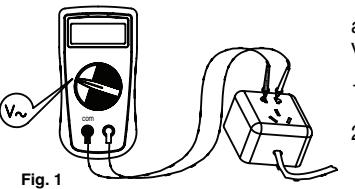

Fig. 1
3.1 AC VOLTS (FIG. 1)
3.1 VOLTIOS DE CA (FIG. 1)